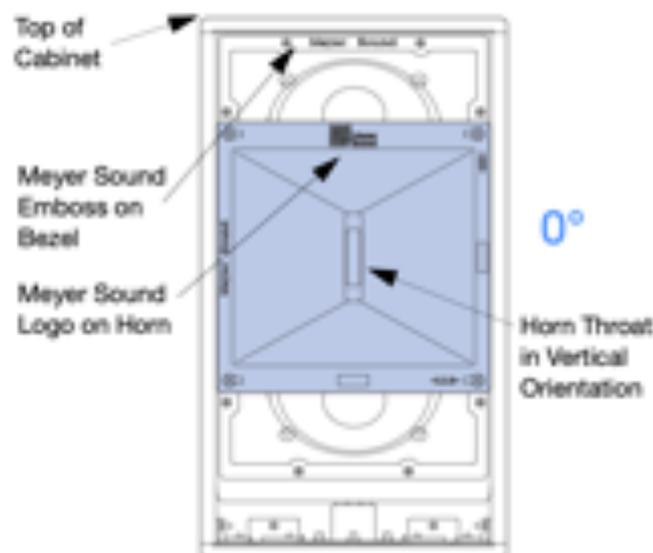
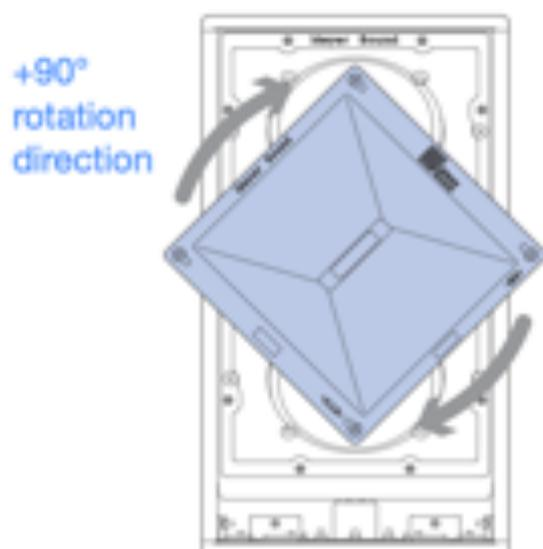
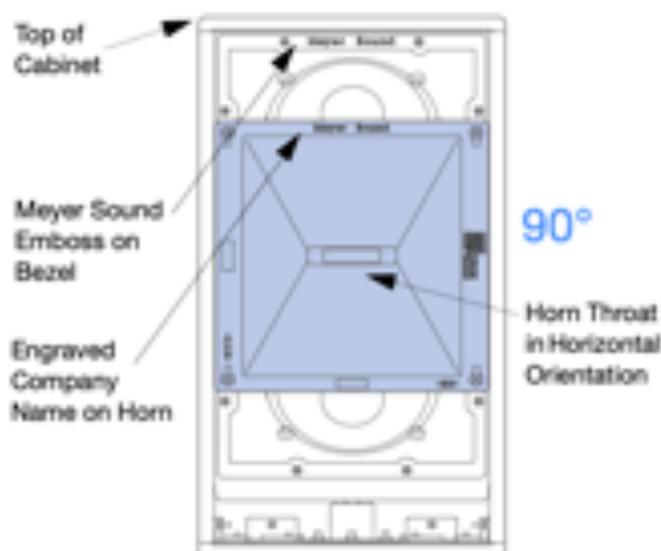
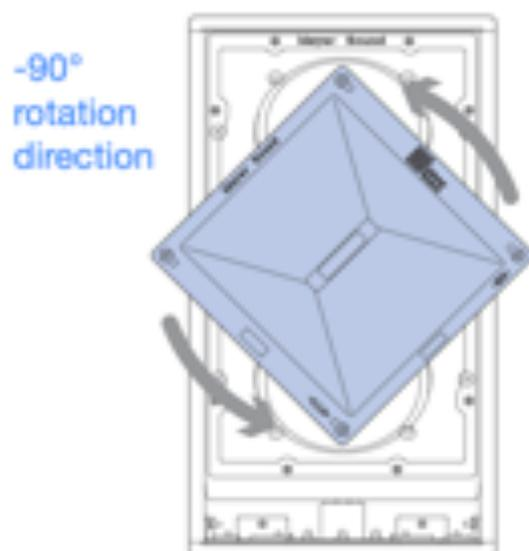

Figure 24: 110° horizontal by 50° vertical horn orientation
Figure 25: Clockwise Rotation of Horn to achieve 50° horizontal by 110° vertical horn orientation
Figure 26: 110° horizontal by 50° vertical horn orientation
Figure 27: Counter-clockwise Rotation of Horn to achieve 110° horizontal by 50° vertical horn orientation
3. Determine the present orientation of the horn by checking the horn throat orientation when the speaker is vertical with the port at the bottom. The cabinet is vertical when the Meyer Sound Logo on the horn and on the bezel are at the top (Figure 24).
4. If the present orientation is 110° horizontal by 50° vertical (**horn throat is vertical**, see Figure 24 on page 30), the horn may only be rotated in the **clockwise** direction (Figure 25 on page 30).
CAUTION: Do not pull the horn out to rotate and do not use force. It should rotate smoothly if rotated in the correct direction. The rotation angle is NOT continuous. It is limited to 90° of travel between the two orientations where the Meyer Sound emboss on the bezel lines up with either the company logo (Figure 24) or the engraved company name (Figure 26) on the horn.
5. If the present orientation is 50° horizontal by 110° vertical (horn throat is horizontal, see Figure 26), the horn may only be rotated in the counter-clockwise direction (Figure 27).